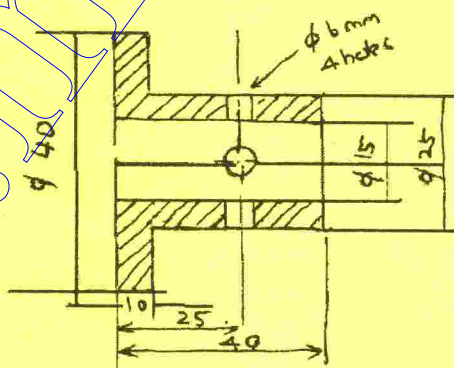

Fig. 12 (a)
12. (a) Design and draw any two views of an Indexing drill jig to drill the four 6mm holes in the gland shown in Fig 12 (a).